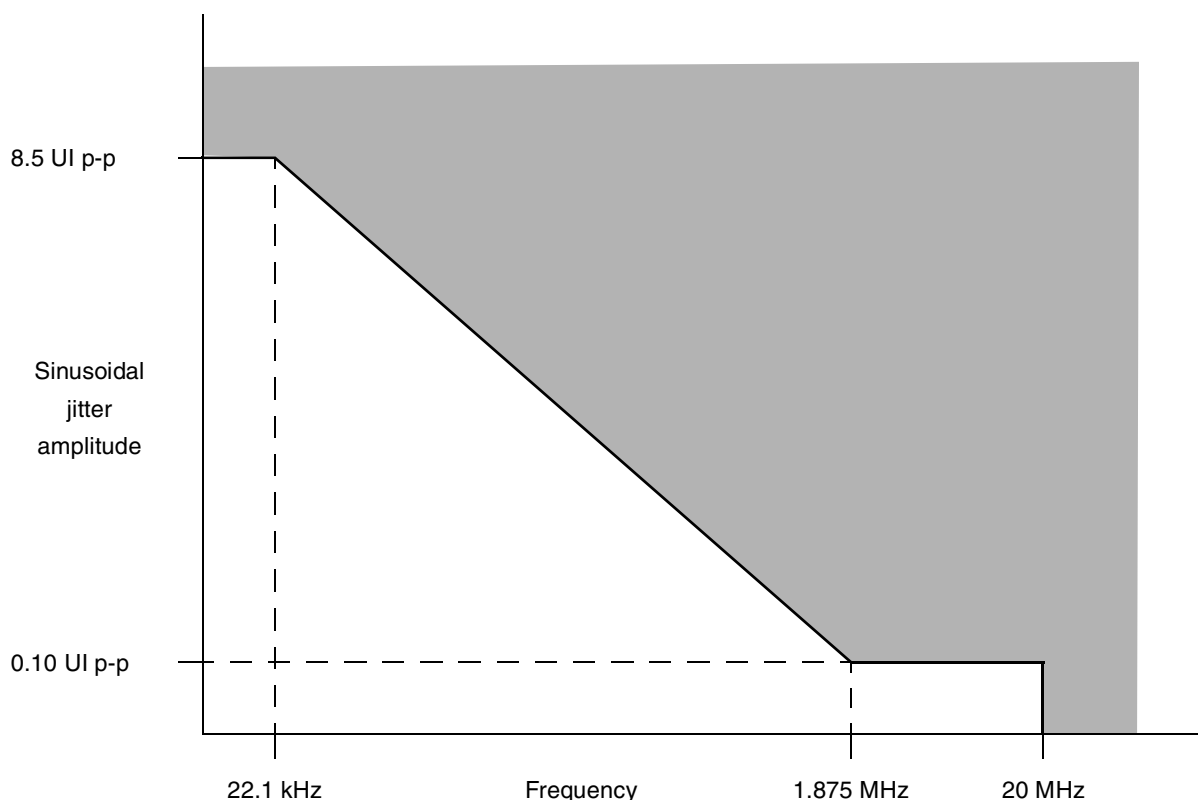

Figure 39. Single-Frequency Sinusoidal Jitter Limits
2. Total jitter is composed of three components: deterministic jitter, random jitter and single frequency sinusoidal jitter. The sinusoidal jitter may have any amplitude and frequency in the unshaded region of Figure 39. The sinusoidal jitter component is included to ensure margin for low-frequency jitter, wander, noise, crosstalk, and other variable system effects.
2. Total jitter is composed of three components: deterministic jitter, random jitter, and single frequency sinusoidal jitter. The sinusoidal jitter may have any amplitude and frequency in the unshaded region of Figure 39. The sinusoidal jitter component is included to ensure margin for low frequency jitter, wander, noise, crosstalk, and other variable system effects.